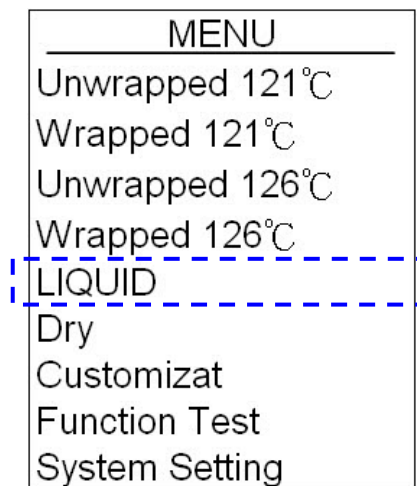
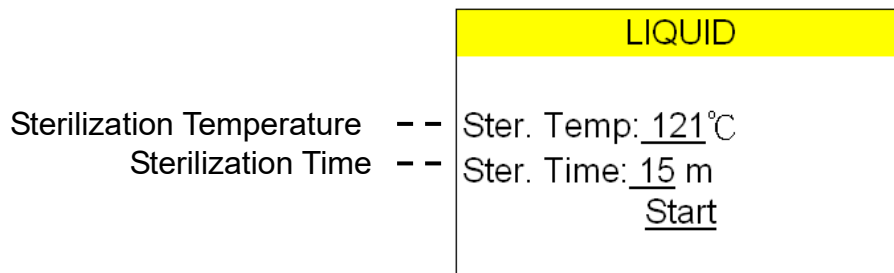

Figure 55
Figure 56
- C. Press  or  button to select LIQUID program (Figure 55), and then press  button to select LIQUID program, as shown in Figure 56.